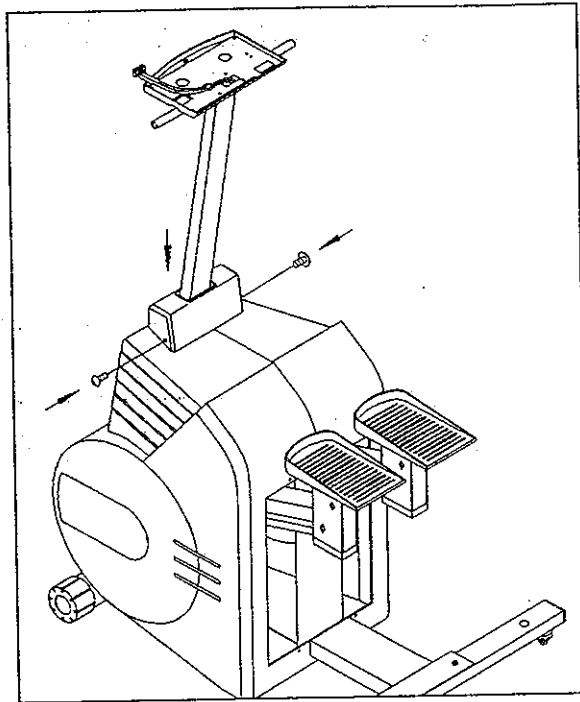

Fig. 9
3. Slide the post shroud down into place, and secure with two screws (see Fig. 9).